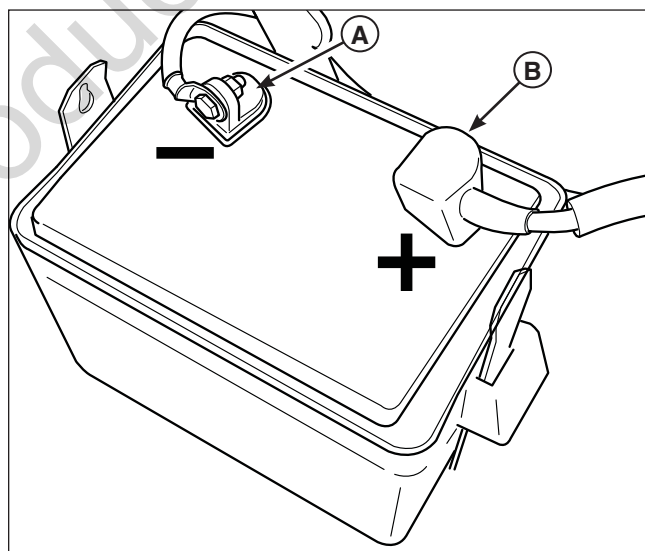

Figure 40. Battery Compartment
1. Disconnect the cables from the battery, negative [-] cable first (**A**, **Figure 40**).